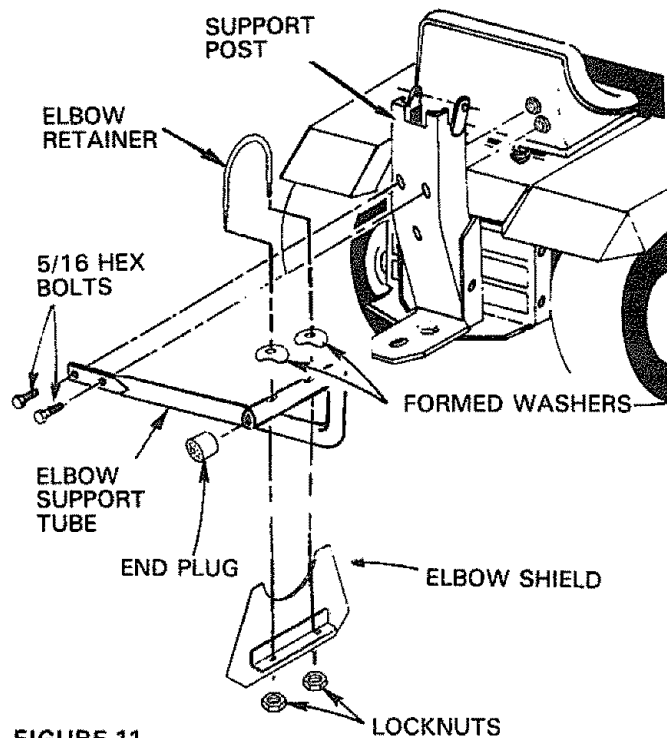

FIGURE 11
6. Mount elbow support tube to support post (Fig. 11) using: two 5/16 hex bolts and two 5/16 locknuts (shown full size below). NOTE: Position elbow support tube as shown in Fig. 11. Tighten securely. Elbow support tube and hardware furnished with bagger.
7. Install end plug (Fig. 11) on elbow support tube. End plug furnished with bagger.
8. Mount the elbow retainer and the elbow shield to the elbow support tube (Fig. 11) using: two formed washers and two 5/16 locknuts (shown full size below). NOTE: Do not tighten. Elbow retainer, elbow shield and hardware furnished with bagger.